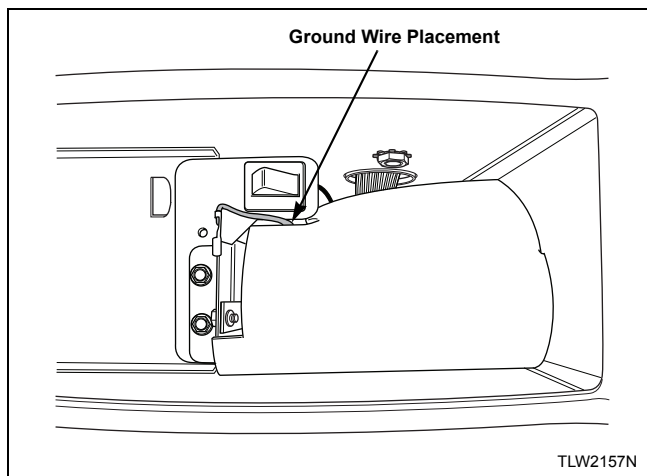

Figure 25
7. Before installing coin slide and extension, make sure ground wire is tucked under control shield to provide clearance for coin slide. Refer to *Figure 25*.